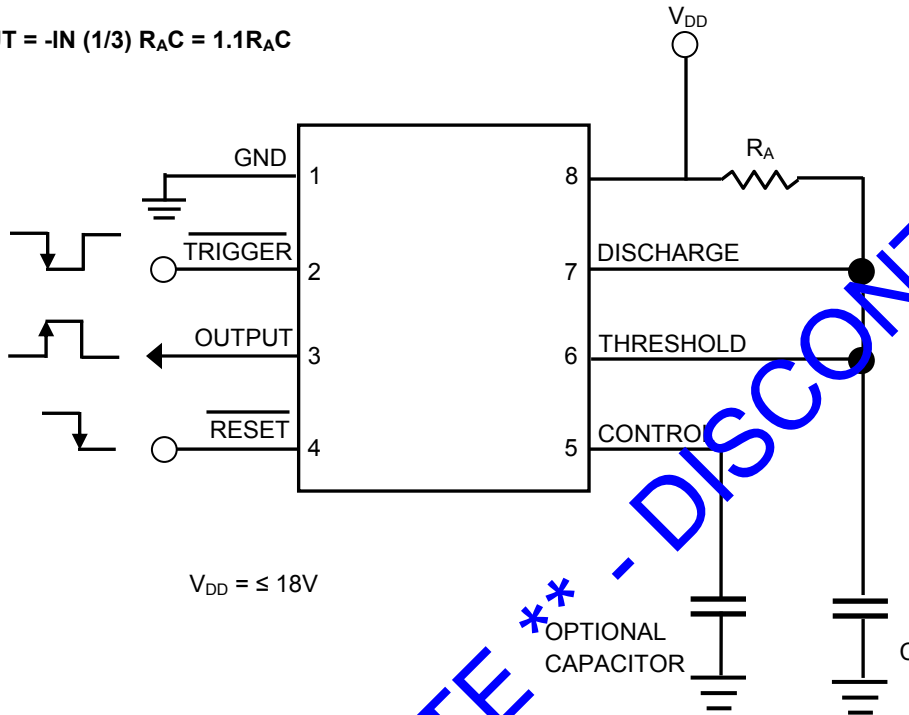

Figure 2 – Monostable Operation
The timer functions as a one-shot. Initially the external capacitor (C) is held discharged by a transistor inside the timer. Upon application of a negative $\overline{\text{TRIGGER}}$ pulse to pin 2 the internal flip-flop is set which releases the short circuit across the external capacitor and drives the OUTPUT high. The voltage across the capacitor now increases exponentially with a time constant $t = R_A C$. When the voltage across the capacitor equals $2/3 V_{DD}$, the comparator resets the flip-flop, which in turn discharges the capacitor rapidly & drives the OUTPUT to its low state. $\overline{\text{TRIGGER}}$ must return to a high state before the OUTPUT can return to a low state (Figure 2).